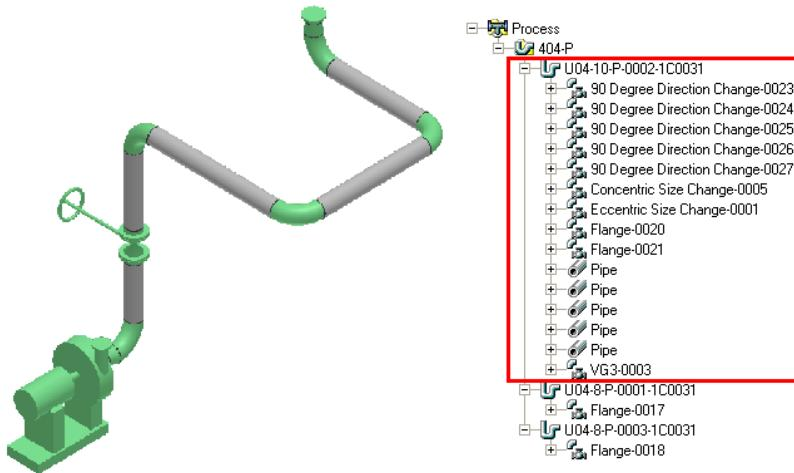

Figure 3: Pipe Parts in the System Hierarchy
- **Piping Part:** A piping part is a physical component that comprises a feature and is generally selected by the software. Figure 3 shows some examples of pipe parts that represent a section of a piping system. The highlighted portion in the figure shows a section of the workspace explorer containing the hierarchy of the pipe parts.